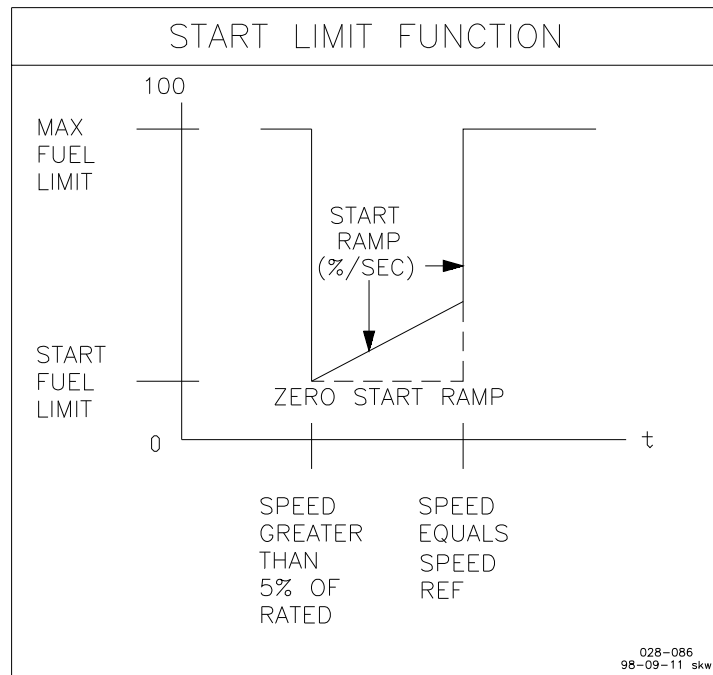

Figure 3-7. Start Limit Function
1. **START FUEL LIMIT** limits the percent fuel demand when the engine is started. The limit is usually set at the fuel level required to start the engine. The limiter is disabled when the engine speed exceeds 95% of the speed reference (see Figure 3-7).